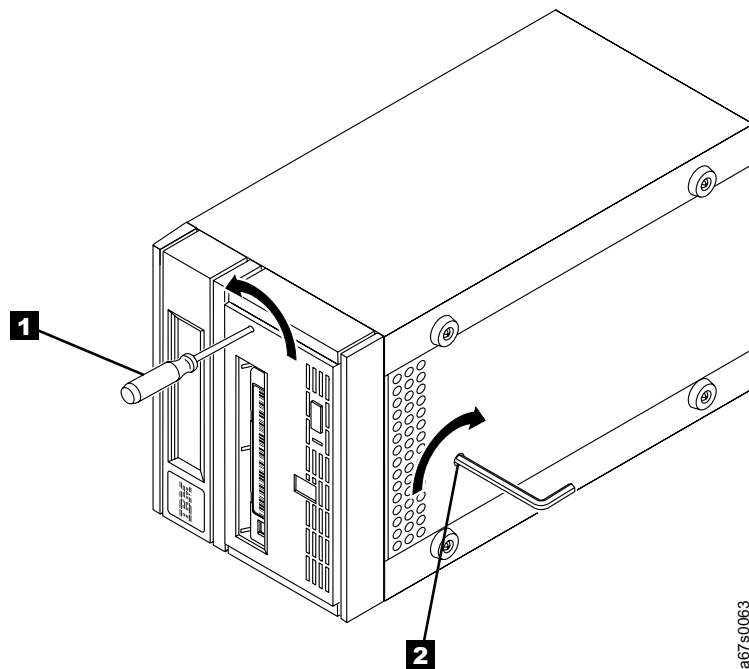

Figure 21. Moving the leader pin block into the cartridge. When the leader pin block reaches the cartridge, it disengages the leader pin.
1. Insert a small-blade screwdriver potentiometer into the access hole for the loader motor gear (see **1** in Figure 21).
1. With the small-blade screwdriver, continue to rotate the loader motor gear in the unload direction (counterclockwise) (see **1** in Figure 21 on page 72). The cartridge moves slowly out of the tape load compartment.